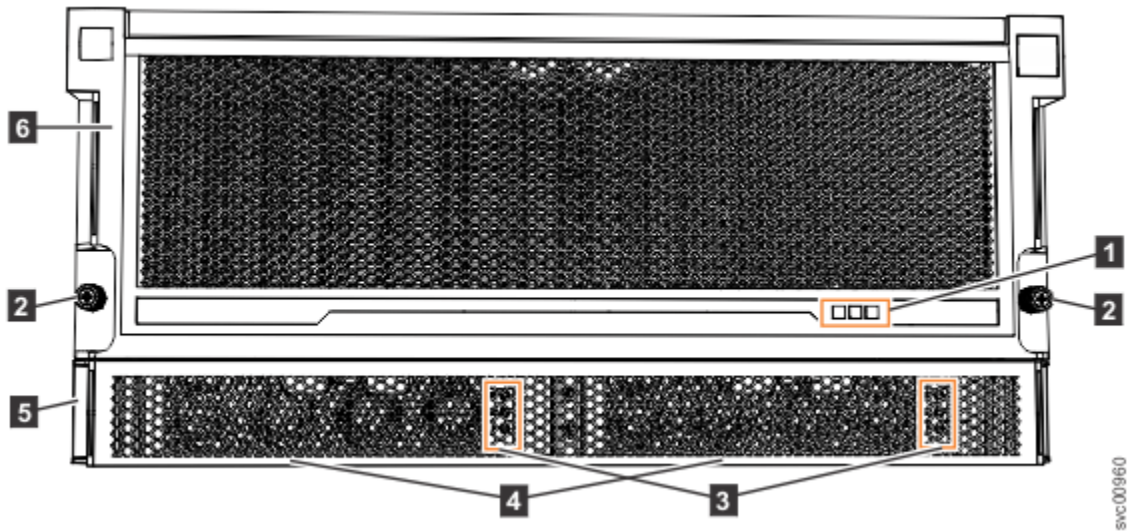

Figure 61. Features on the front of the 2077-92F, 2077-A9F expansion enclosure
- Before you connect the power cables to the rear of the enclosure, always check that the expansion enclosure is secured in the rack. If needed, tighten the thumbscrews on the front of the enclosure (2 in Figure 61 on page 60) to ensure that the enclosure drawer does not roll open.
The 2077-92F, 2077-A9F expansion enclosure has two power supply units (PSUs) that are accessible from the front of the enclosure (4 in Figure 61 on page 60). As the figure also shows, the PSUs are covered by the 1U fascia (5).